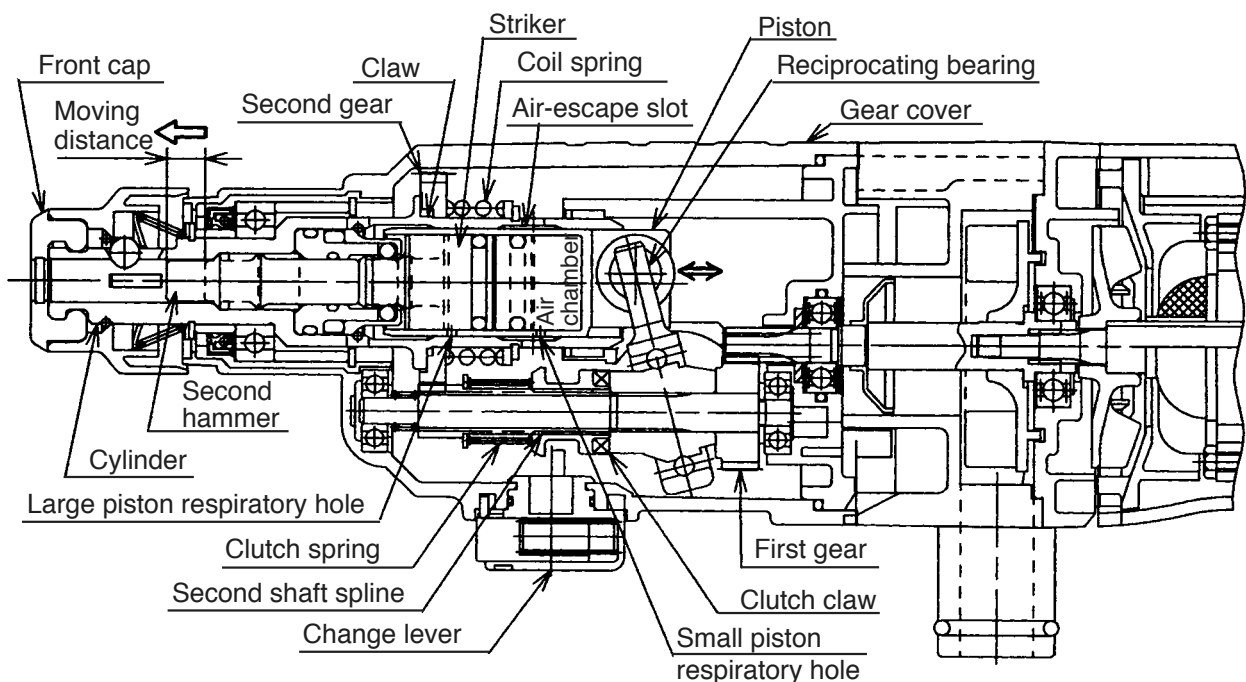

Fig. 6
The idle hammering prevention mechanism in the Model DH 24PD2 is different from that of conventional rotary hammers. When the drill bit is lifted from the concrete surface on completion of drilling, the second hammer moves to the position indicated by the continuous lines in Fig. 6 and the protruding (lip) portion at the tip of the striker is gripped by O-ring (C) mounted between the hammer holder and the damper holder. In this state, should the piston continue to move so that the small piston respiratory hole is blocked by the inner wall of the cylinder, the air in the air chamber will pass through the large piston respiratory hole and be released through the air-escape slot and large cylinder respiratory hole provided on the inner wall of the cylinder. Accordingly, there is no change in the air pressure within the air chamber, and movement of the striker (idle hammering operation) is prevented. The gripping force of O-ring (C) on the striker is so small in comparison with the conventional mouth system that practically no pressing force at all is required to restart the hammering operation.